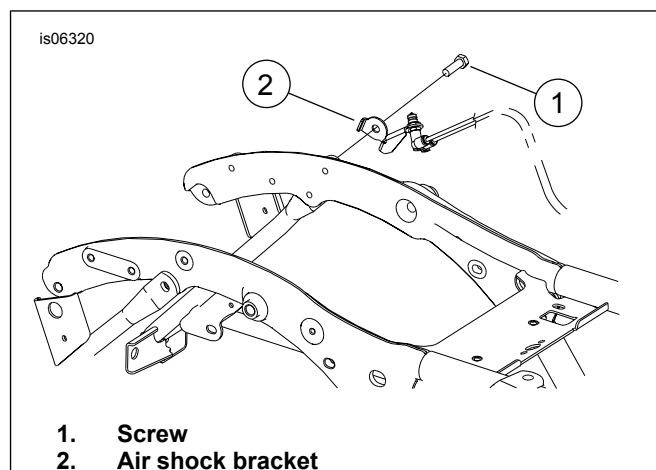

Figure 1. Remove Air Shock Bracket
2. See Figure 1. Remove screw (1) from the air valve bracket assembly and remove assembly. Save the air valve bracket assembly if you plan to reuse the air shocks. Install the screw to the frame rail and saddlebag support and tighten to 20.3–27.1 N·m (15–20 ft-lbs). If wire harness is secured to air shock bracket with a cable tie, remove cable tie. Install a new cable tie around wire harness and saddlebag support.